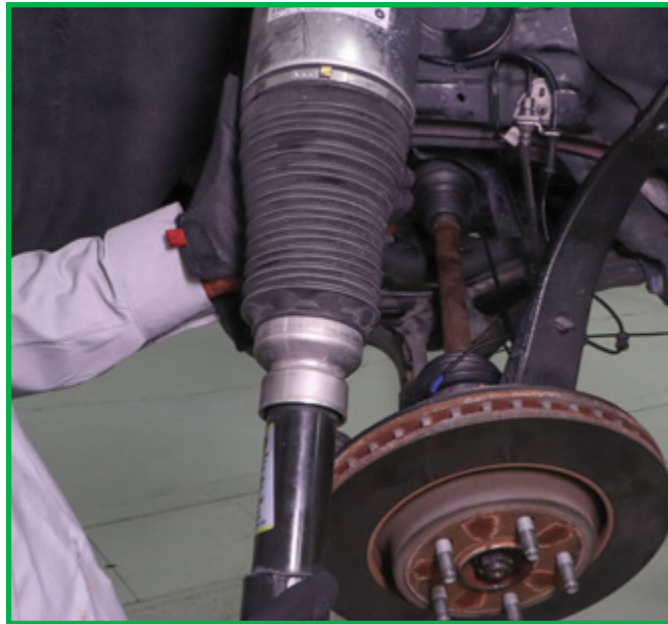

FIGURE 22
15. Remove air strut from vehicle. (Figure 22)